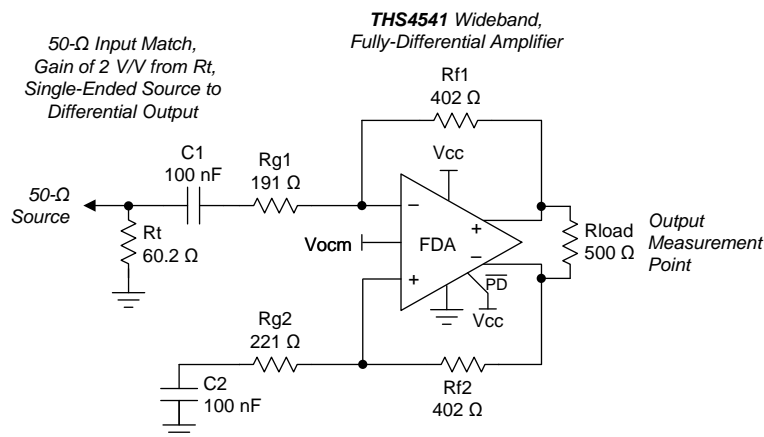
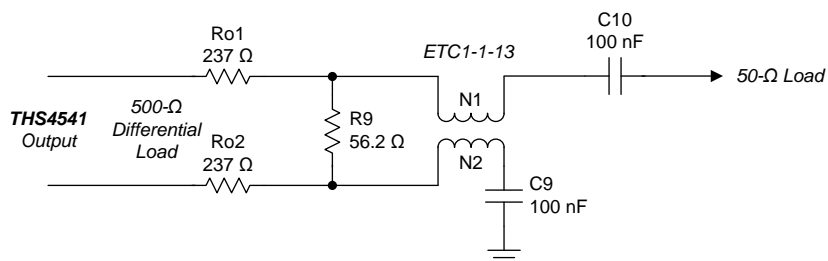
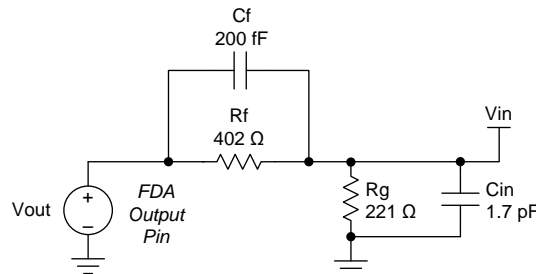
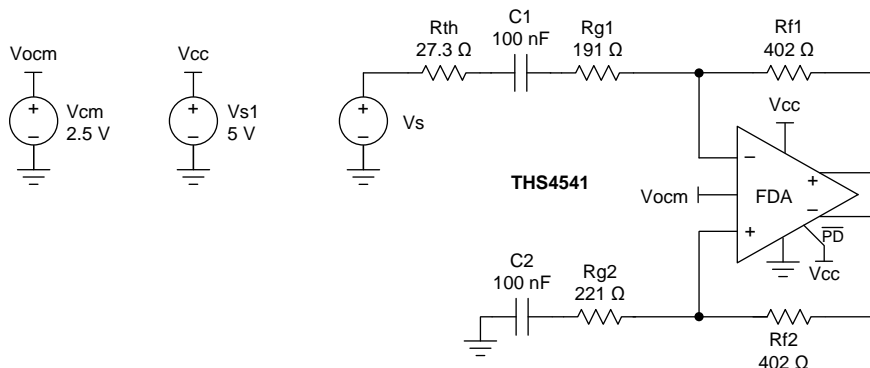

Figure 61. AC-Coupled, Single-Ended Source to a Differential Gain of a 2-V/V Test Circuit
Figure 62. Example 500- Ω Load to a Single-Ended, Doubly-Terminated, AC-Coupled, 50- Ω Interface
Figure 65. Feedback Network for the Gain of 2 Configuration Using 402 Ω and Matching to a 50-Ω Source
Figure 68. Input Swing Analysis Circuit from Figure 61 with Thevenized Source
$G = 5\text{ V/V}$, 50-MHz input, 0.3-ns input edge rate, single-ended input to differential output, see Figure 61
Single-ended input to differential output, simulated differential output impedance, (closed-loop) gain of 2 and 5, see Figure 61
Single-ended input to differential output, gain of 2 (see Figure 61), simulated with 1% resistor, worst-case mismatch
Single-ended to differential, gain of 2 (see Figure 61) PSRR simulated to differential output
Single-ended to differential gain of 2 (see Figure 61), PSRR for negative supply to differential output (1-kHz simulation)
Single-ended to differential gain of 2 (see Figure 61), PSRR for positive supply to differential output (1-kHz simulation)
Because most lab equipment is single-ended, the characterization circuits typically operate with a single-ended, matched, 50-Ω input termination to a differential output at the FDA output pins. That output is then translated back to single-ended through a variety of baluns (or transformers) depending on the test and frequency range. DC-coupled, step-response testing uses two 50-Ω scope inputs with trace math. The starting point for any single-ended-to-differential, ac-coupled characterization plot is shown in Figure 61.
Most characterization plots fix the R_f ($R_{f1} = R_{f2}$) value at 402 Ω, as shown in Figure 61. This element value is completely flexible in application, but the 402 Ω provides a good compromise for the parasitic issues linked to this value, specifically:
- Added output loading. The FDA appears like an inverting op amp design with both feedback resistors as an added load across the outputs (approximate total differential load in Figure 61 is 500 Ω || 804 Ω = 308 Ω).
The frequency domain characterization curves start with the selections of Figure 61. Then, various elements are modified to show their impact over a range of design targets, specifically:
Because most network and spectrum analyzers are a single-ended input, the output network on the THS4541 characterization tests typically show the desired load connected through a balun to a single-ended, 50- Ω load, while presenting a 50- Ω source from the balun output back into the balun. For instance, Figure 62 shows a wideband MA/Com balun used for Figure 61. This network shows a 500- Ω differential load to the THS4541, but an ac-coupled, 50- Ω source to the network analyzer. Distortion testing typically uses a lower-frequency, dc-isolated balun (such as the TT1-6T) that is rotated 90° from the wider band interface of Figure 62.
Figure 1 illustrates the small-signal response shape versus gain using a fixed 402-Ω feedback resistor in the circuit of Figure 61. Being a voltage-feedback based FDA, the THS4541 shows a response shape that varies with gain setting, largely determined by the loop-gain crossover frequency and phase margin at the crossover. This loop-gain crossover frequency is where the open-loop response and the noise gain intersect (where the loop gain drops to 1). The noise gain is the inverse of the voltage divider from the outputs back to the differential inputs; use a balanced divider ratio on each feedback path. In general, the noise gain (NG) does not equal the signal gain for designs providing an input match from a source impedance. NG is given by $1 + R_f / (\text{total impedance from the inverting summing junction to ground})$. Using the resistor values computed in the gain sweep of Table 6, and repeating that sweep showing the NG gives Table 1, where only the exact R solutions are shown.
NG is critically important for bandwidth and all output error terms (such as dc offset and noise). For lower-speed devices, normally only the dc noise gain is considered. However, for the THS4541, with loop gain crossover at greater than 300 MHz, the feedback network produces a parasitic pole to the differential summing junctions that causes the noise gain to increase with frequency. This pole causes a lower crossover frequency than might be expected with added phase shift around the loop. Consider the feedback network (single-ended) of Figure 65, showing a parasitic 0.2 pF on the feedback 402-Ω resistor. The 0.85-pF differential input capacitance of the THS4541 is converted to single-ended as a 1.7-pF parasitic for this single-sided analysis circuit (the Rg shown is Rg2 in Figure 61).
The response shape from Vout to Vin in Figure 65 has a pole and then a zero. To describe NG, invert the Laplace transform of Vin and Vout from Figure 65 to provide the frequency-dependent NG response of Equation 1, where a zero comes in first and then a pole.
The zero location is key. Using the gain of 2 values of Figure 65, the estimated zero in the NG is 588 MHz. Limiting the parasitic capacitance at the summing junctions, either differentially or signal-ended, to a ground or power plane is critical in board layouts.
One method of deriving the voltage range for V_{icm} for any single-ended input to differential output design is to determine the voltage swing on the nonsignal-input side of the FDA outputs and simply take its divider back to the input pin to ground or the dc reference used on that side. An example analysis is shown in Figure 68, where the circuit of Figure 61 is simplified to show just a Thevenized source impedance.